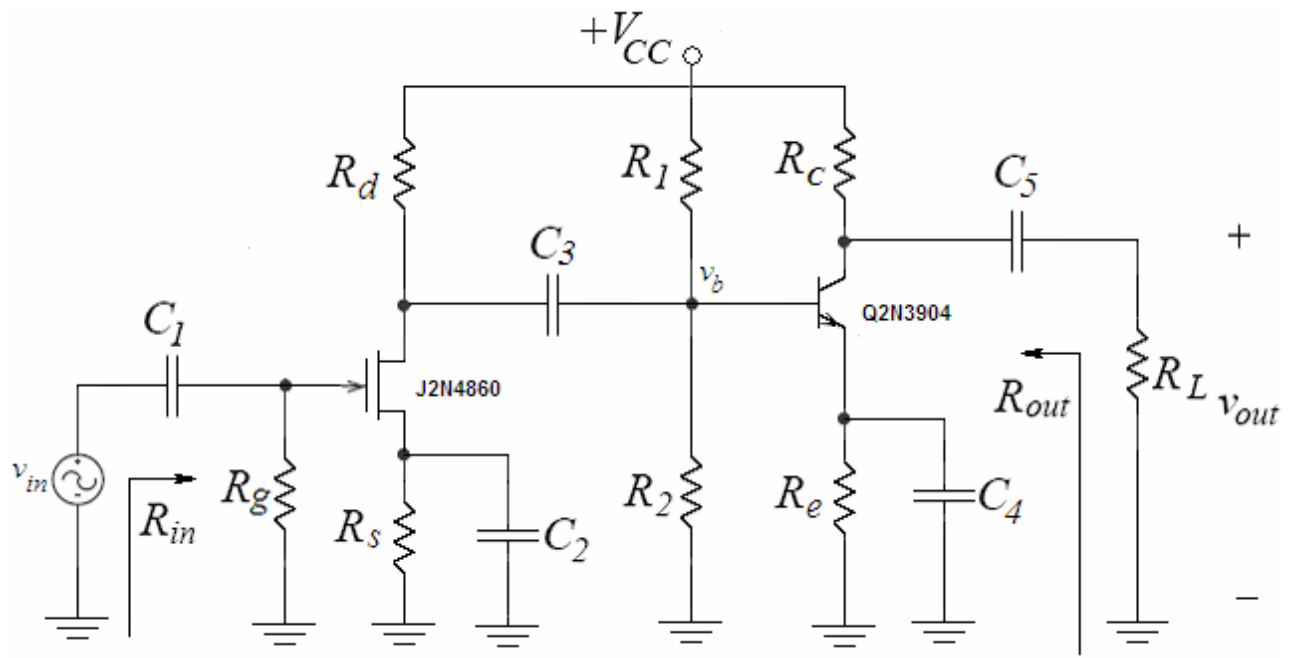

figure1
The JFET CS - BJT CE cascade two-stage amplifier in Fig.1 is a good multistage configuration because the CS and CE amplifiers together provide some very desirable characteristics. JFET CS amplifier has a gain usually less than 10. Because of the high input impedance and low noise, JFET is usually used as the first stage in a multi-stage amplifier to pick up weak input signals. The BJT CE amplifier makes up the second stage and has the characteristics of high input impedance, low output impedance and high voltage gain.
In laboratory you will construct the circuit in Fig.1 using the transistors 2N3904 and 2N4860 and following values ;
1. Make the DC analysis of the circuit given in the Fig.1;
2. Make the AC analysis of the circuit given in the Fig.1;
a. Construct your circuit in Fig1. in Pspice
b. Bias simulation. Simulate the circuit of Fig.1. Do a BIAS simulation and find the **DC voltages at each node (V_D , V_G , V_S , V_B , V_C , V_E)** and **currents I_D , I_C , I_E , I_B** . Compare the results with the one you calculated in preliminary work part1.